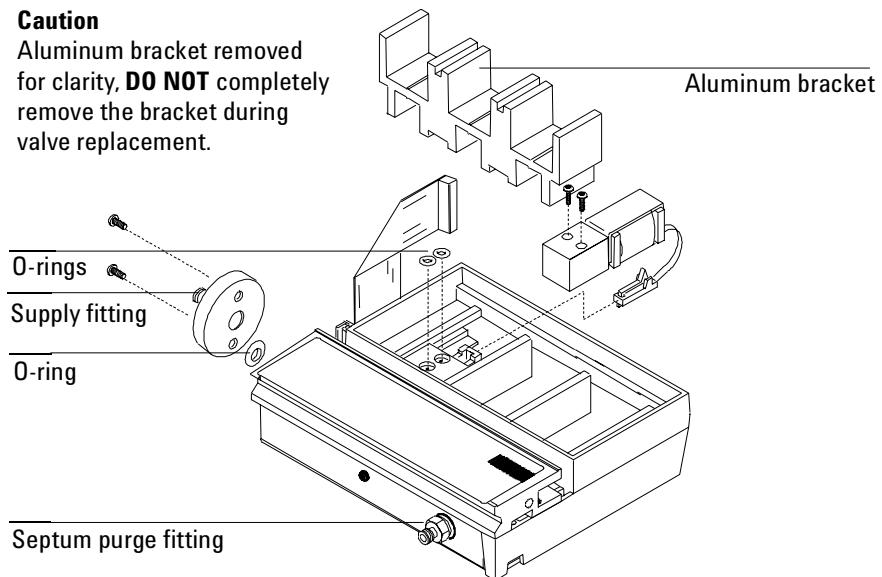

Figure 220-13 EPC module serviceable parts
8. If the leaky component is serviceable, such as vent/inlet fittings (see Figure 220-13) swap it out. Otherwise, replace the EPC module.